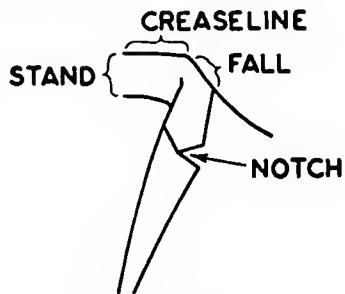

Fig. 4. The collar.
Creaseline — The uppermost folded edge of the collar (Fig. 4).
Fall or leaf edge — The part of the collar which comes between the creaseline and the outer edge of the collar (Fig. 4).
Stand — The part of the collar between the creaseline and the neck edge (Fig. 4).
- Noteh.** The area from the end of the gorgeline to the point of the collar end (Fig. 4).